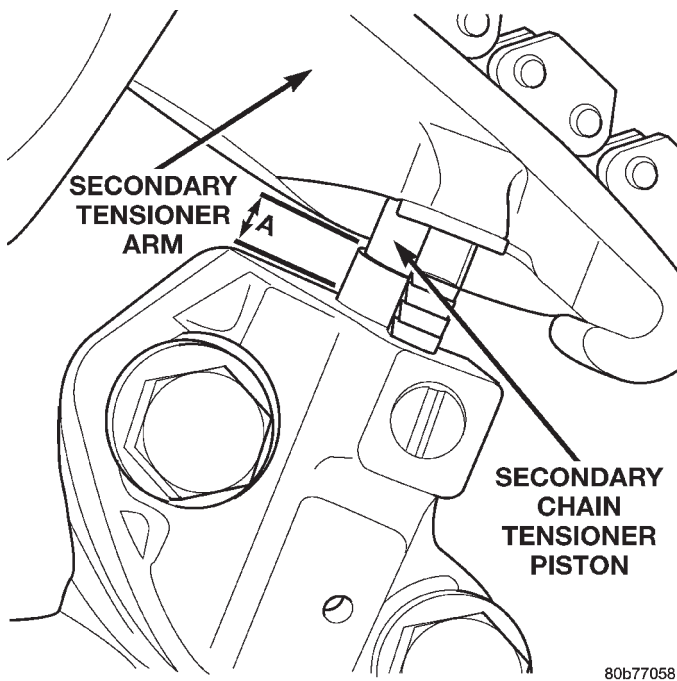

Fig. 9 Measuring Secondary Timing Chains For Stretch
(2) To determine if the secondary timing chains are worn, rotate the engine clockwise until maximum tensioner piston extension is obtained. Measure the distance between the secondary timing chain tensioner housing and the step ledge on the piston (Fig. 9). The measurement at point (A) must be less than 15mm (.5906 inches).